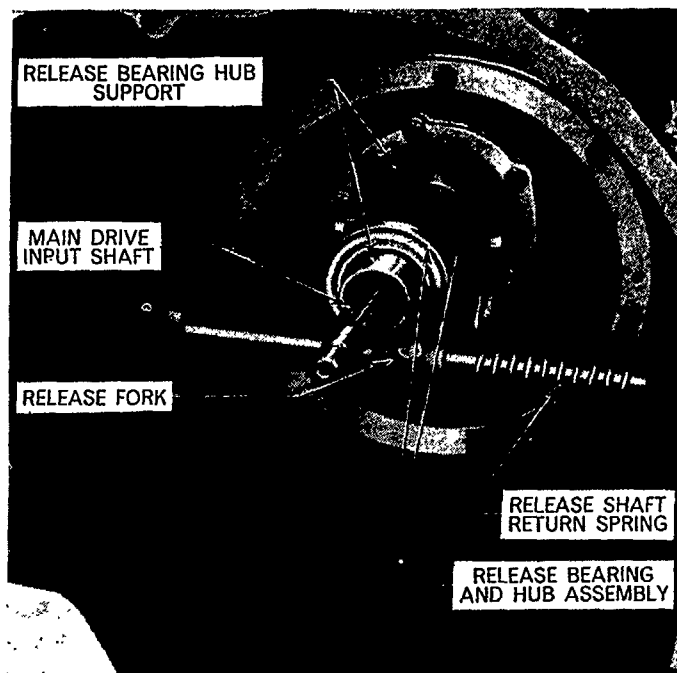

Figure 6
4. Lever the release shaft return spring off the cast lug on the inside of the front end of the transmission housing, Figure 6.
5. Pass the release shaft through the left hand side bushing in the transmission case enough to install the release shaft return spring, Figure 6.
7. Place the outer end of the return spring on the lug cast on the inside of the transmission housing and lever the other end onto the web of the release fork, Figure 6.